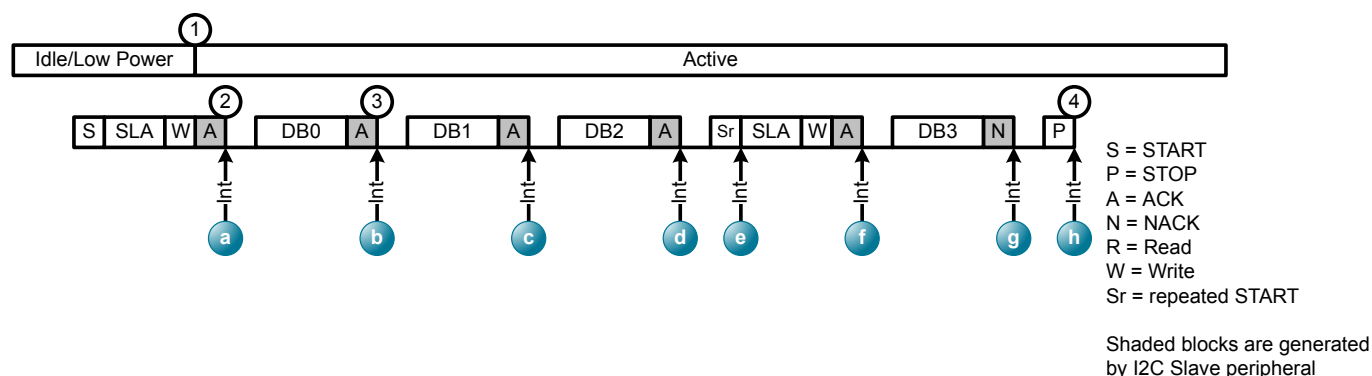
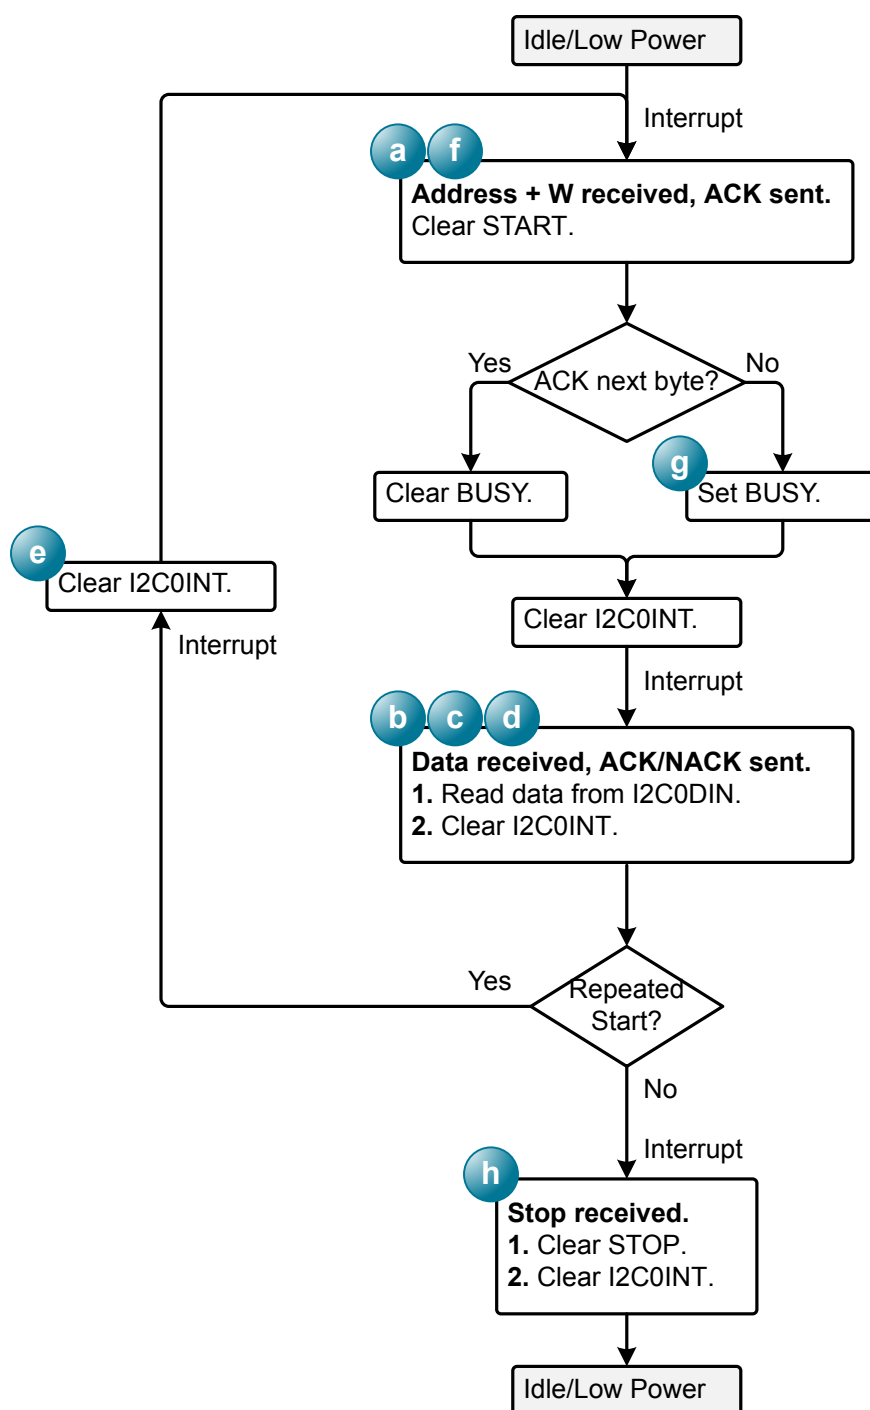

Figure 17.5. Example I2C Write Sequence with the I2C Slave Peripheral
Figure 17.6. I2C Write Flow Diagram with the I2C Slave Peripheral
2. An interrupt occurs after the automatic ACK of the address. The I2C peripheral holds the SCL line low for clock stretching until firmware clears I2C0INT. Firmware should take the actions indicated by Figure 17.6 I2C Write Flow Diagram with the I2C Slave Peripheral on page 240.
Figure 17.5 Example I2C Write Sequence with the I2C Slave Peripheral on page 239 demonstrates an example sequence, including a repeated start, and Figure 17.6 I2C Write Flow Diagram with the I2C Slave Peripheral on page 240 describes the I2C Write sequence and firmware actions in each interrupt.
Note: Firmware can leave the BUSY bit as 0 in step F in the Figure 17.5 Example I2C Write Sequence with the I2C Slave Peripheral on page 239 sequence. In this case, the master will receive an ACK instead at step G could still generate a STOP bit immediately after the ACK.